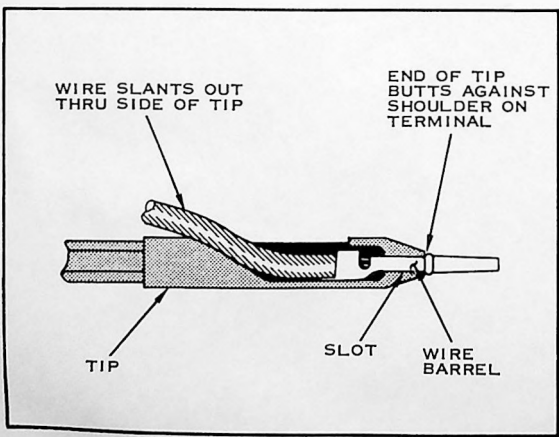

FIGURE 2
2. Place the Wire Barrel of the Terminal into the Slot in the Tip of the Tool. See Figure 2. The end of the Tip must butt against the Shoulder of the Terminal.
3. Let the Wire slant out through the side of the Tip. Use your finger to hold the Terminal in the Tip. See Figure 2.